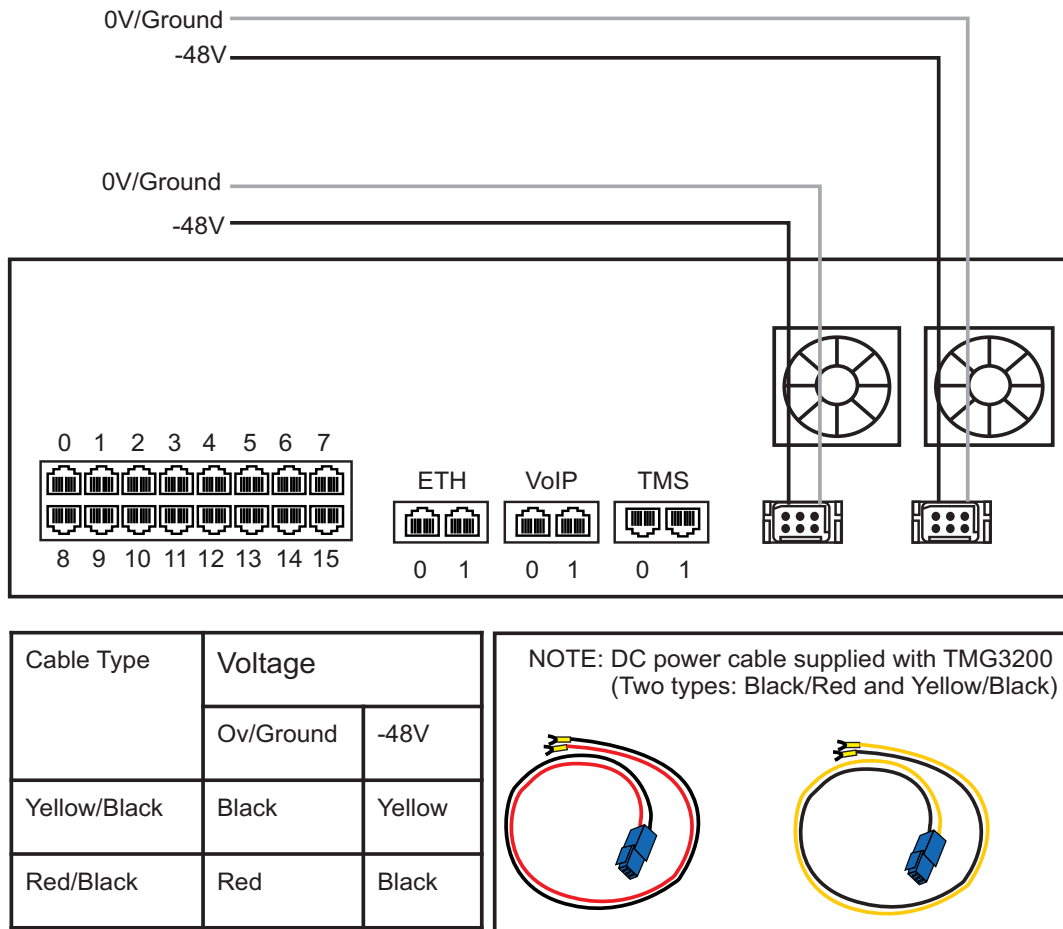

Figure 2.10 TMG3200 DC wiring diagram
1. Connect one DC cable, supplied with the TMG3200, as shown in figure 2.10 on page 20, to the DC outlet at the rear of the TMG3200.
Note Two types of cable with different coloring are available. Refer to figure 2.10 on page 20 for the appropriate wiring information.
2. Connect one lead of the DC power cable to the positive terminal of the DC power source, as shown in figure 2.10 on page 20.